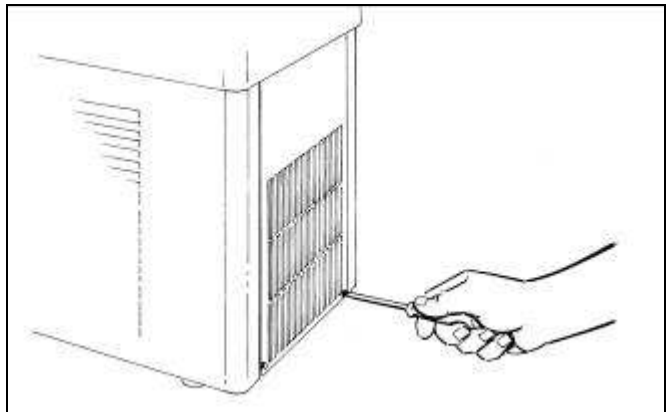

Fig. 26
- Remove the rear panel by unscrewing the two bolts fastening it (fig.26);